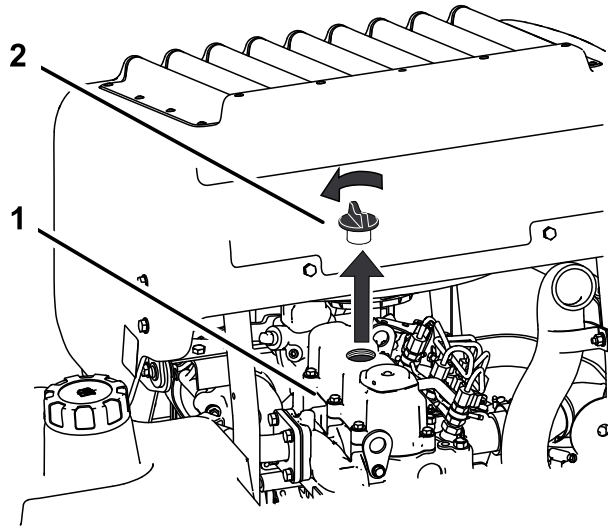

Figure 49
6. Remove the oil filler cap from the top of the engine (Figure 49). This will help the oil to drain.
2. Remove the oil filler cap and the dipstick (Figure 49).